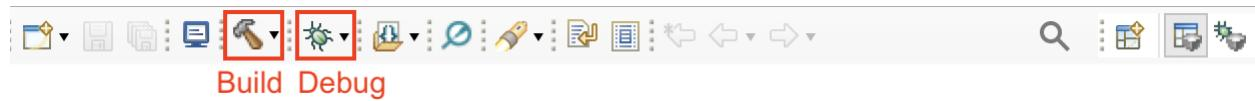

Figure 11: Build and Debug icons on the Quick Access panel.
- Build the project via the menu bar: **Project → Build Project**, or click on the Build button on the Quick Access panel below the menu bar (Figure 11). The project should build without errors.
- Make sure that the LaunchPad is connected to the computer with the provided USB cable. Debug the application using the menu bar: **Run → Debug**, or click on the Debug button on the Quick Access panel below the menu bar (Figure 11). This starts the debugger, which gains control of the target, erases the target memory, programs the target memory with the application, and resets the target.